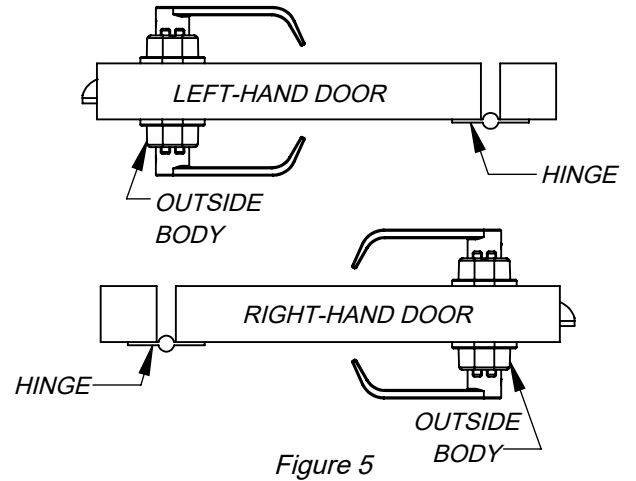
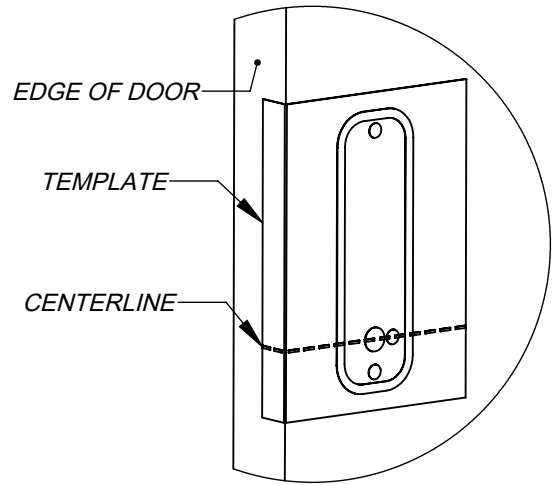
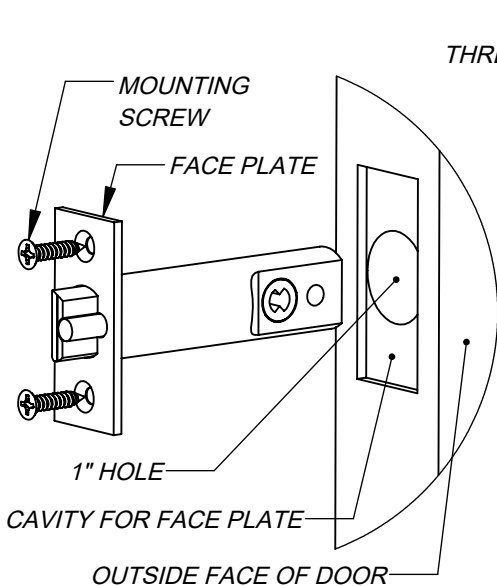

Figure 5
Figure 6
Figure 7
1) Determine whether the door is a right-hand door or left-hand door (Figure 5). Place the included paper template on the door and fold at the dotted line along the edge of the door (Figure 6). Mark the hole locations and centerline of the latch. Drill the holes at the marked locations. These holes must pass through the other side of the door.
2) On the marked centerline of the latch, mark the central point on the edge of the door for the latch bolt (Figure 6). Drill a hole 1" in diameter to a depth of 3-3/8" (Figure 7).
3) Insert the latch bolt into the 1" hole and mark the edges of the face plate of the latch bolt (Figure 7). Remove the latch bolt and cut a cavity 1/8" deep for the face plate to be flush with the edge of the door. Reinsert the latch bolt into the hole/cavity, making sure that the flat side of the bolt faces the outside face of the door, and secure with the included #8 x .75" mounting screws.